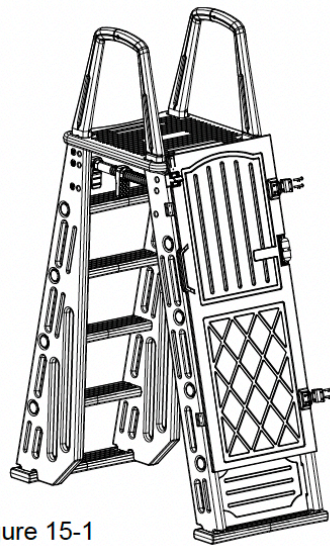
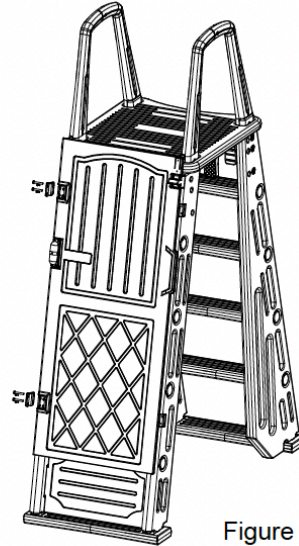

Figure 15-1
Figure 15-2
13. The gate can be set to open from either the left or right side. If opening from the left side (the side of the left outer upright post marked with «L»), install the upper hinge of the gate onto the right outer upright post («R» mark) using a hinge bracket and secure it with two M6x40 screws and two M4x10 screws. Install the lower hinge in the same manner (see Figure 15-1). If the gate opens from the right side (the side of the right outer upright post marked with «R»), refer to Figure 15-2 for the positions of the gate and hinge assembly.